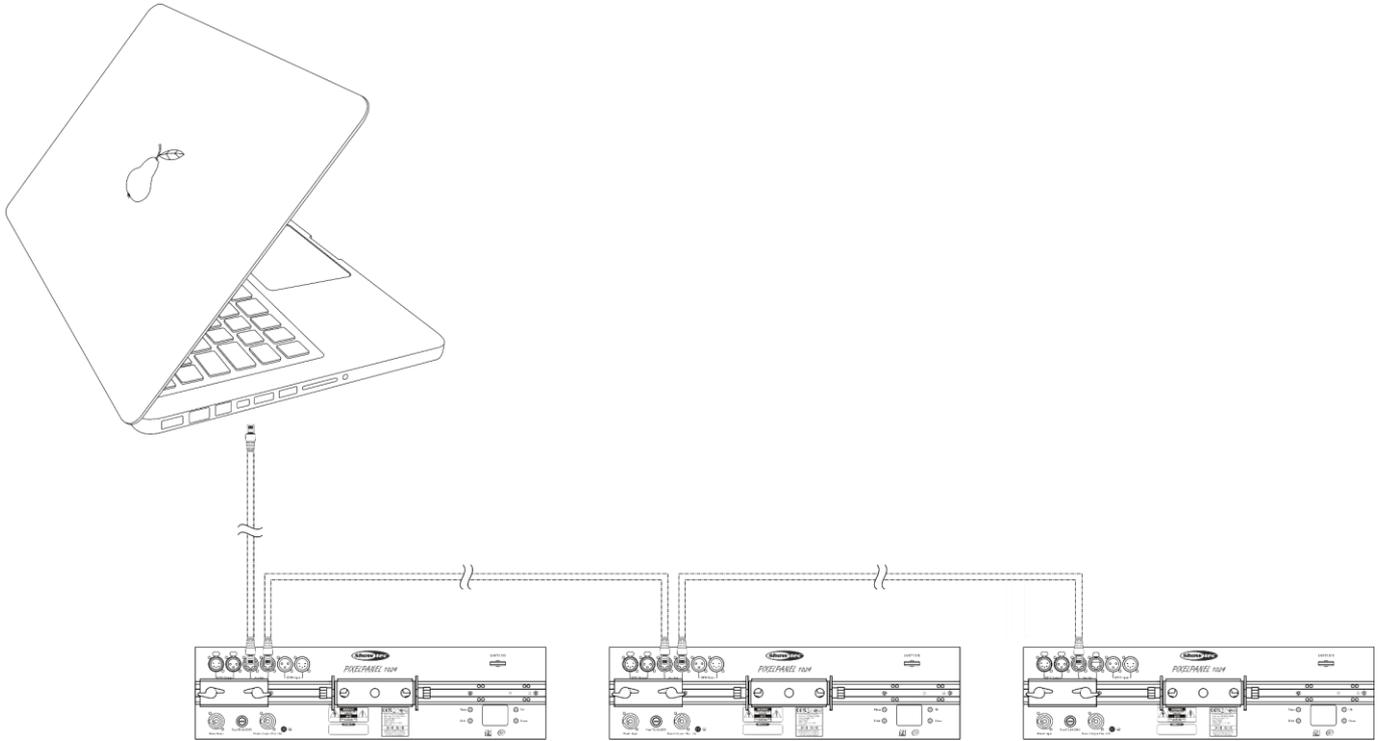

Fig. 09
- 03) Repeat step 2 to connect all devices as shown in Fig. 09.